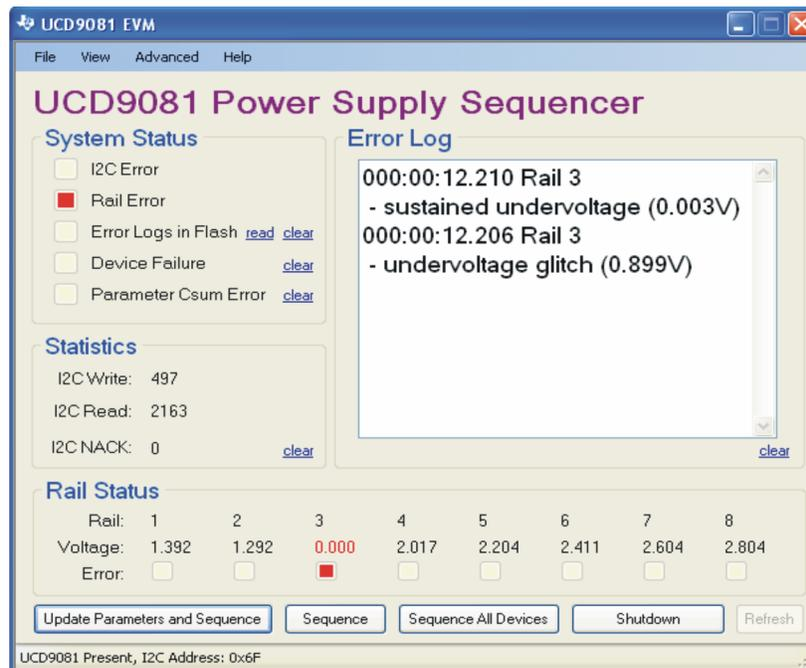

Figure 1. UCD9081 GUI Main Window
The GUI main window, shown in Figure 1, displays the current status and voltage of each rail. The main window menu functions provide access for the user to input the start-up and shutdown configurations. The GUI main window has the following areas:
- **System Status** – shows device errors including **I2C Error**, **Rail Error**, **Device Failure**, and **Parameter Csum** (Checksum) **Error**. A filled red box (Figure 1) indicates an error. The clear buttons to the right of each error provide a means to reset the errors.
- **Error Log** – Contains error messages corresponding to errors flagged in System Status. Errors can be logged in on-chip memory in an eight-deep FIFO located in volatile memory and displayed in the GUI error log in black text, as shown in Figure 1. On-chip memory errors also can be read by an I²C master device but are not retained in the UCD9081 after a power cycle. Errors read from on-chip memory by an I²C master are removed from the FIFO, creating room to write additional errors.